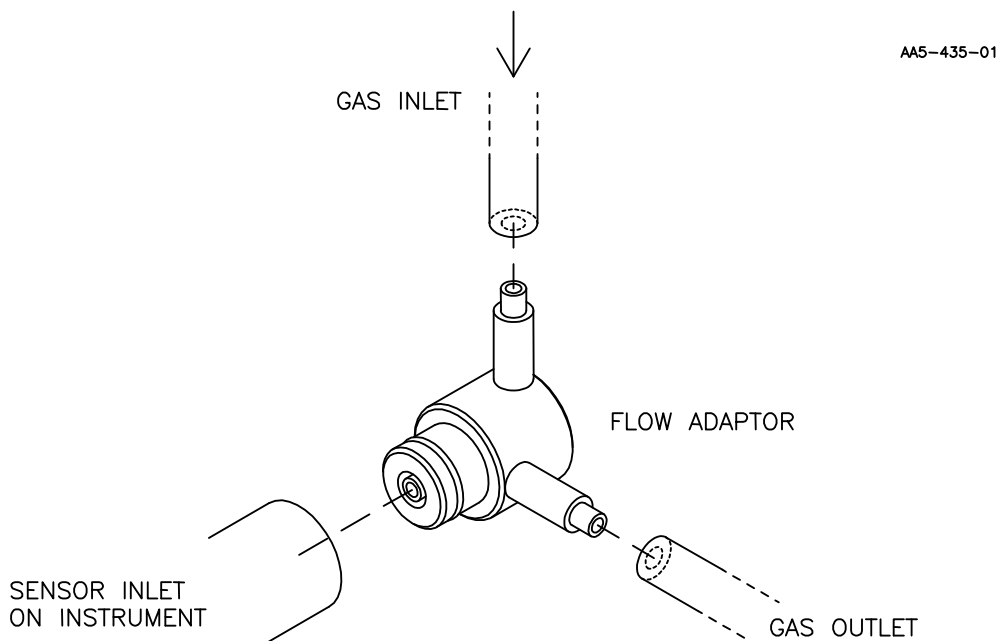

Figure 2 - Fitting the flow adaptor
- a) Fit the flow adaptor to the O₂ sensor and connect, with tubing, the cylinder and set the fine control valve to half scale allowing the gas to flow over the sensor (see Figure 2).